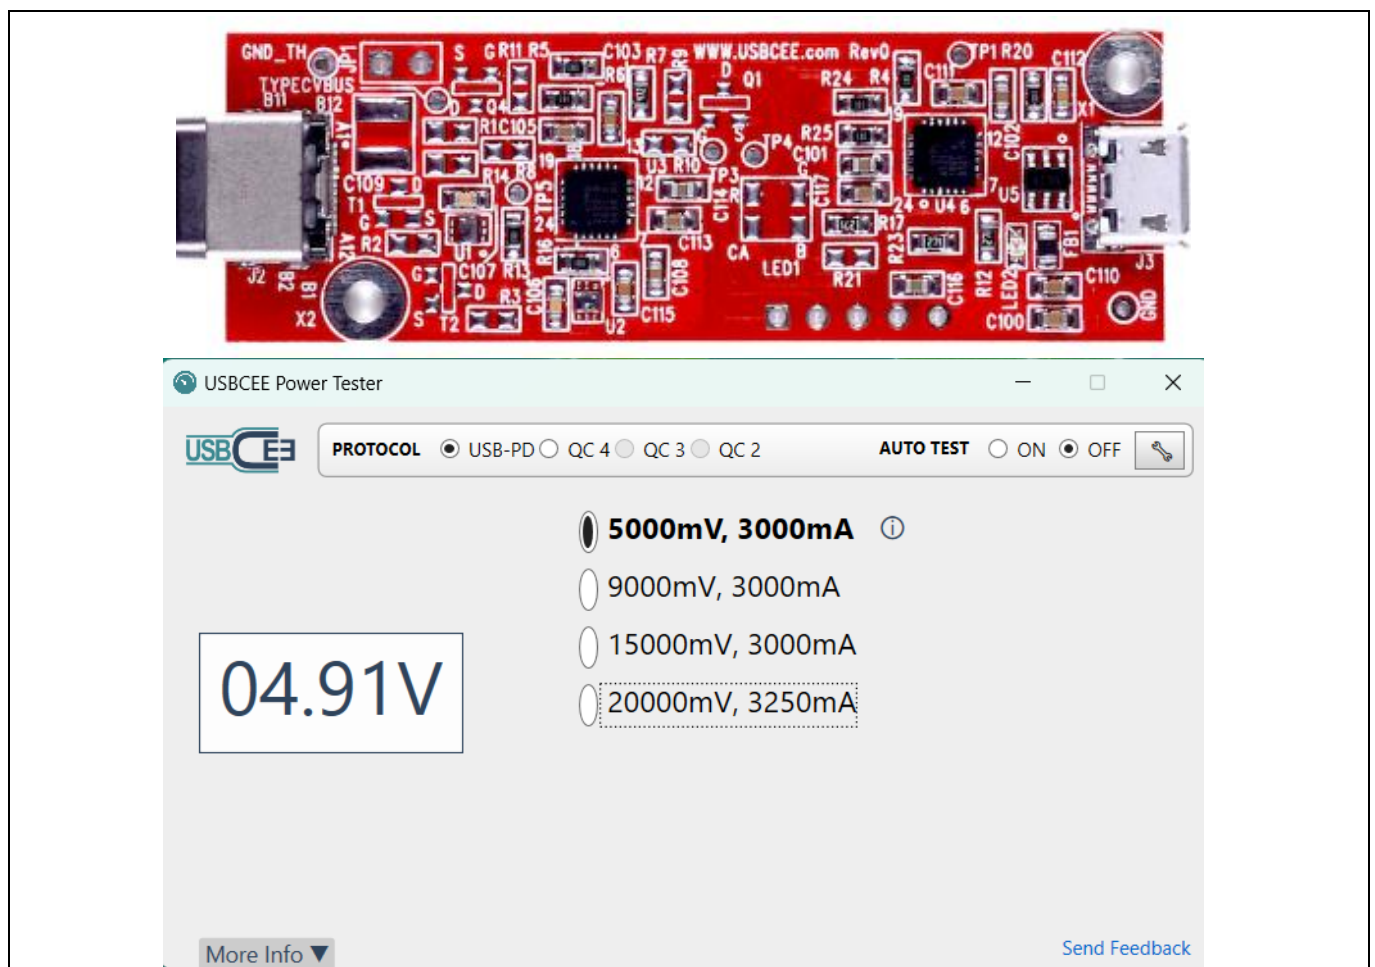

Figure 7 PAT tester and user interface
2. Connect a USB PD tester or a power adapter tester (PAT) to the port and ensure that the USB PD tester gets a successful Power Delivery contract as shown in Figure 7